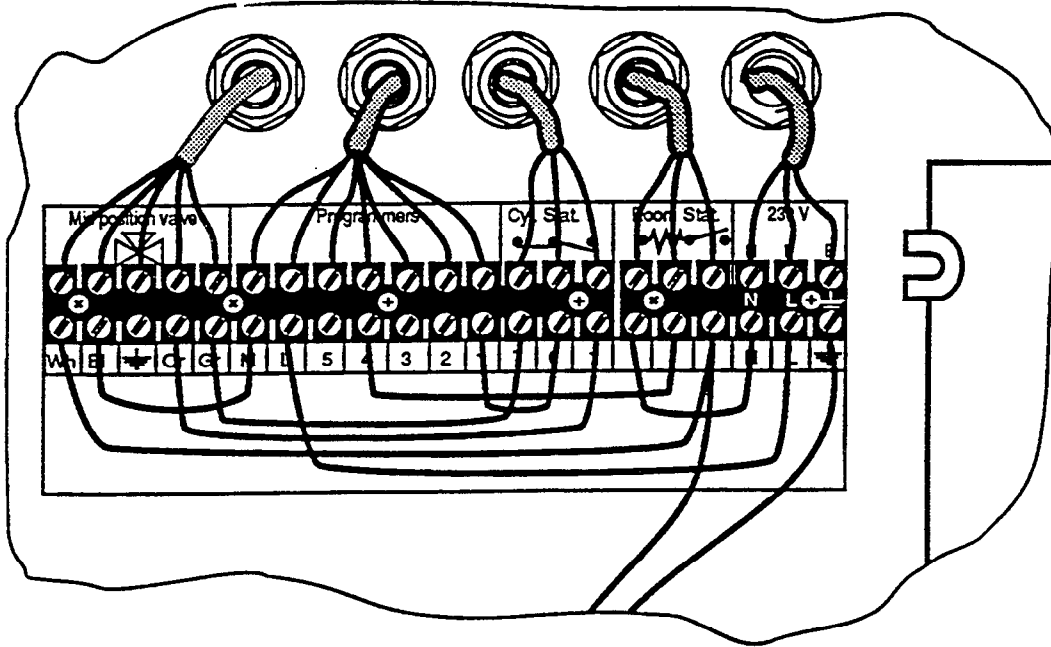

Fig. 24
- c) Fit support bracket (A).d) Fit 14 mm tail drain bend using washer provided.
N.B. The drain must be 22 mm and the 14 mm drain bend from the safety valve must be installed so that discharge of water is readily visible. A tundish arrangement is acceptable. The connection must NOT be made by a capillary or compression fitting directly between the 14 mm drain bend and the 22 mm discharge pipe without an 2 mm air gap. see fig. 24.